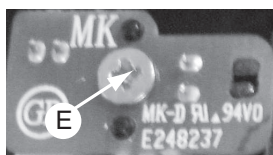

Figure 6
- 3) Loosen 1 screw "E" to move LED board as shown in figure 6.